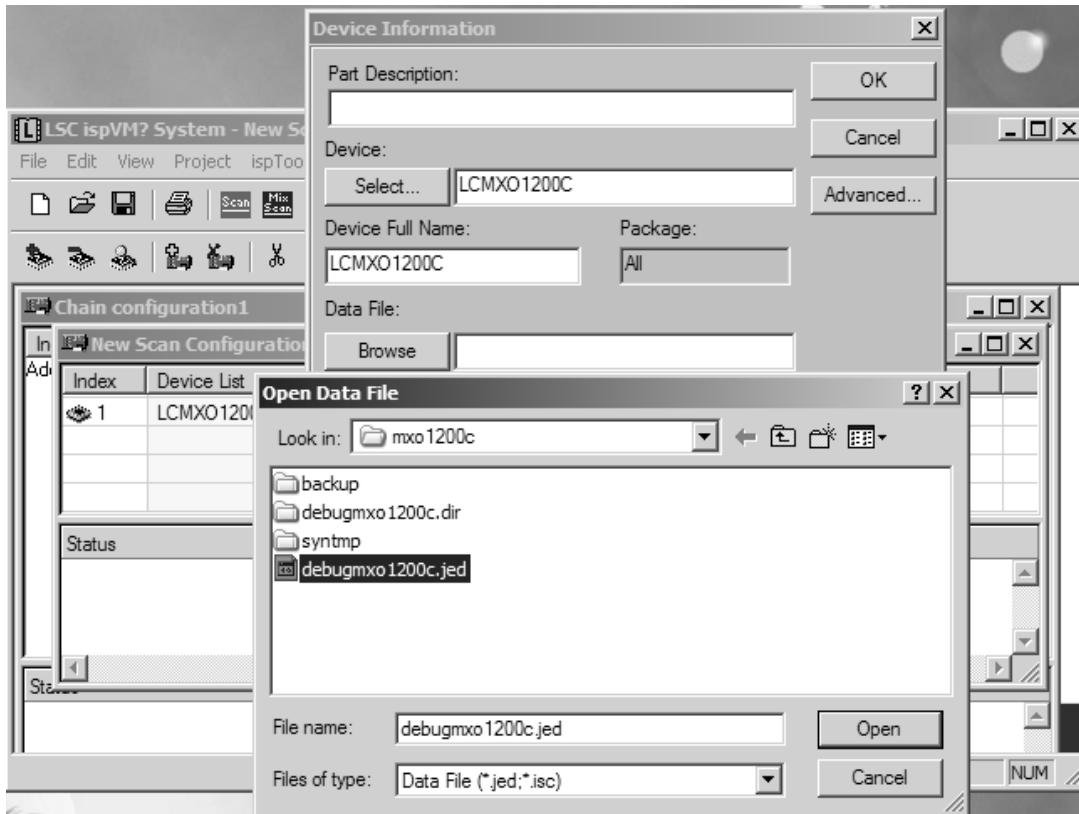

Figure 3-3 Selecting the CPLD Data File
8. Select the CPLD data file (Figure 3-3).